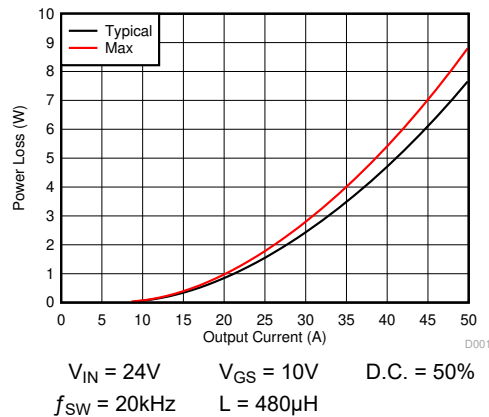
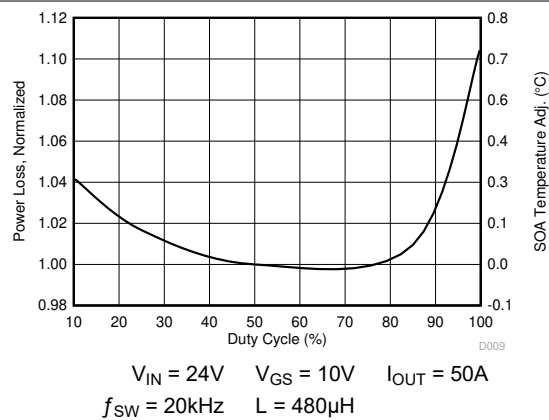

Figure 4-1. Power Loss vs Output Current
Figure 4-6. Normalized Power Loss vs Duty Cycle
The typical power block system characteristic curves (Figure 4-1 through Figure 4-6) are based on measurements made on a PCB design with dimensions of 4in (W) × 3.5in (L) × 0.062in (H) and 6 copper layers of 2oz copper thickness. See Section 5 section for detailed explanation. $T_J = 125^\circ\text{C}$, unless stated otherwise.
Figure 4-1 plots the CSD88584Q5DC power loss as a function of load current. The measured power loss includes both input conversion loss and gate drive loss.
In the example below, we show how to achieve this for the temperatures $T_C = 124^\circ\text{C}$ and $T_B = 120^\circ\text{C}$. First we draw from 50 A on the Y-axis at 124°C to 120°C on the X-axis. Then, we draw a line up from where this line crosses the T_X line to see that this line intercepts the SOA at 39A. Thus we can assume if we are measuring a PCB temperature of 124°C , and a top case temperature of 120°C , the power block can handle 39A RMS, at the normalized conditions. At conditions that differ from those in Figure 4-1, the user may be required to make an SOA temperature adjustment on the T_X line, as shown in the next section.
- Power loss at 40A $\approx$ 4.7W (Figure 4-1)
- Normalized power loss for duty cycle $\approx$ 1.06 (Figure 4-6)
- SOA adjustment for duty cycle $\approx$ 0.4°C (Figure 4-6)